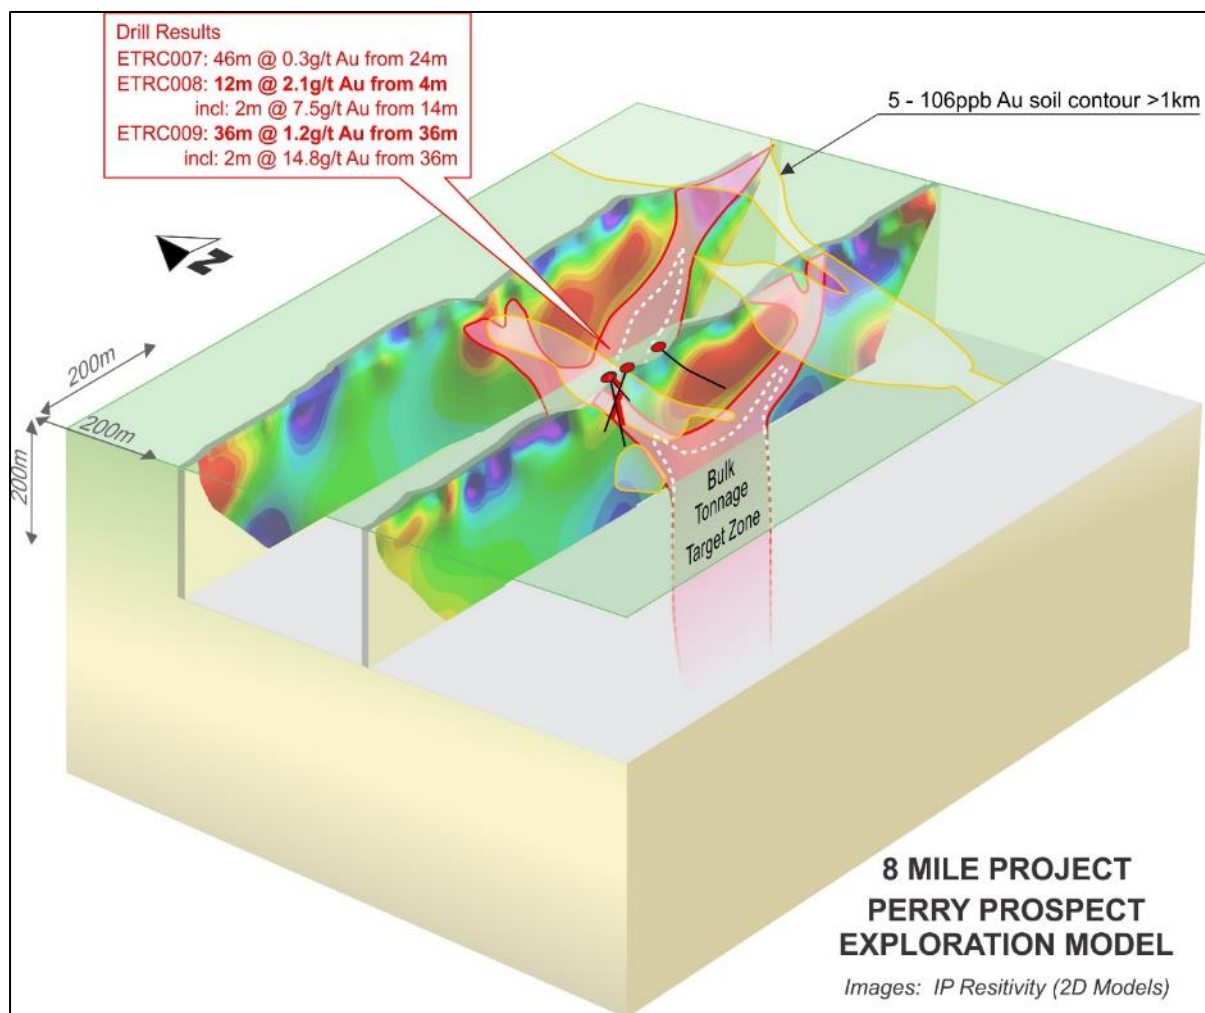
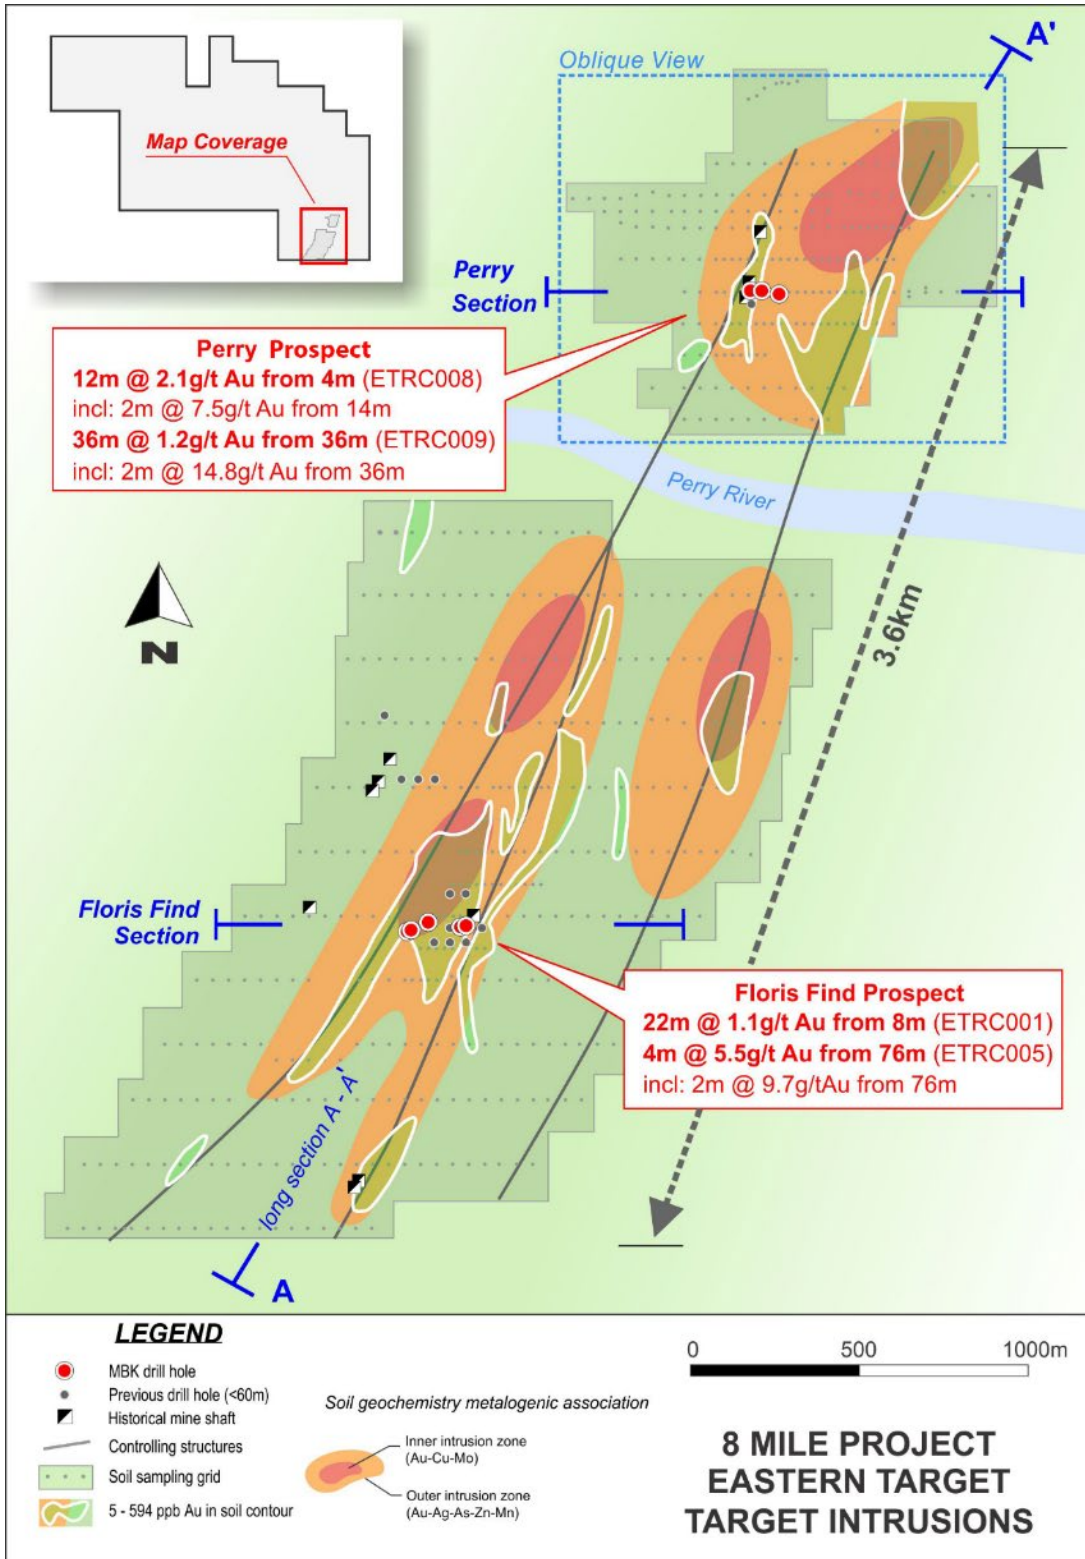

Figure 2: Perry prospect oblique view of IP geophysics and surface geochemistry showing exploration model and targets. Location of figure shown in Figure 3.
Figure 3: Eastern Target showing drilling and MBK soil geochemistry.
**Metal Bank Limited (ASX: MBK)** ('Metal Bank', 'MBK' or the 'Company') is pleased to provide the following drilling update from the Eastern Target of the 8 Mile Project in southeast Queensland, Australia (refer Figure 1). Results have been received from an initial reverse circulation (RC) drilling programme designed to investigate and expand on historical drill results2. Ten holes (872m) were completed at Flori's Find and Perry (refer Figure 3).
Broad zones of gold mineralisation have been intersected at both the Flori's Find and Perry prospects which are located within the same structural corridor more than 2km apart (refer Figure 3).
Figure 2 shows an oblique view of the exploration model at the Perry prospect which highlights near surface drilling results, gold in surface geochemistry and the relationship with IP geophysical targets less than 200m below surface. Figures 3 and 4 show drill hole locations and detailed drill sections at Perry and Flori’s Find.
Multi-element and gold surface geochemistry highlight at least four near-surface gold systems within an overall north-east trending structural corridor greater than 3.6km x 800m (open to the north-east) which includes the Flori’s Find and Perry prospects (refer Figure 3). Metal zonation models derived from the interpretation of multi-element soil geochemistry suggest